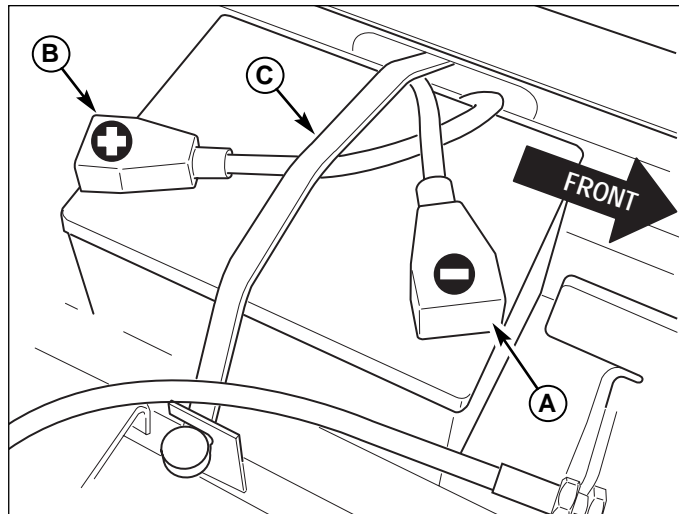

Figure 24. Battery Compartment
1. Disconnect the cables from the battery, negative cable first (A, Figure 24).
2. Remove the battery retainer strap (C).
5. Reinstall the battery and reattach the battery cables, positive cable first (B).
6. Secure the battery with the retainer strap (C).